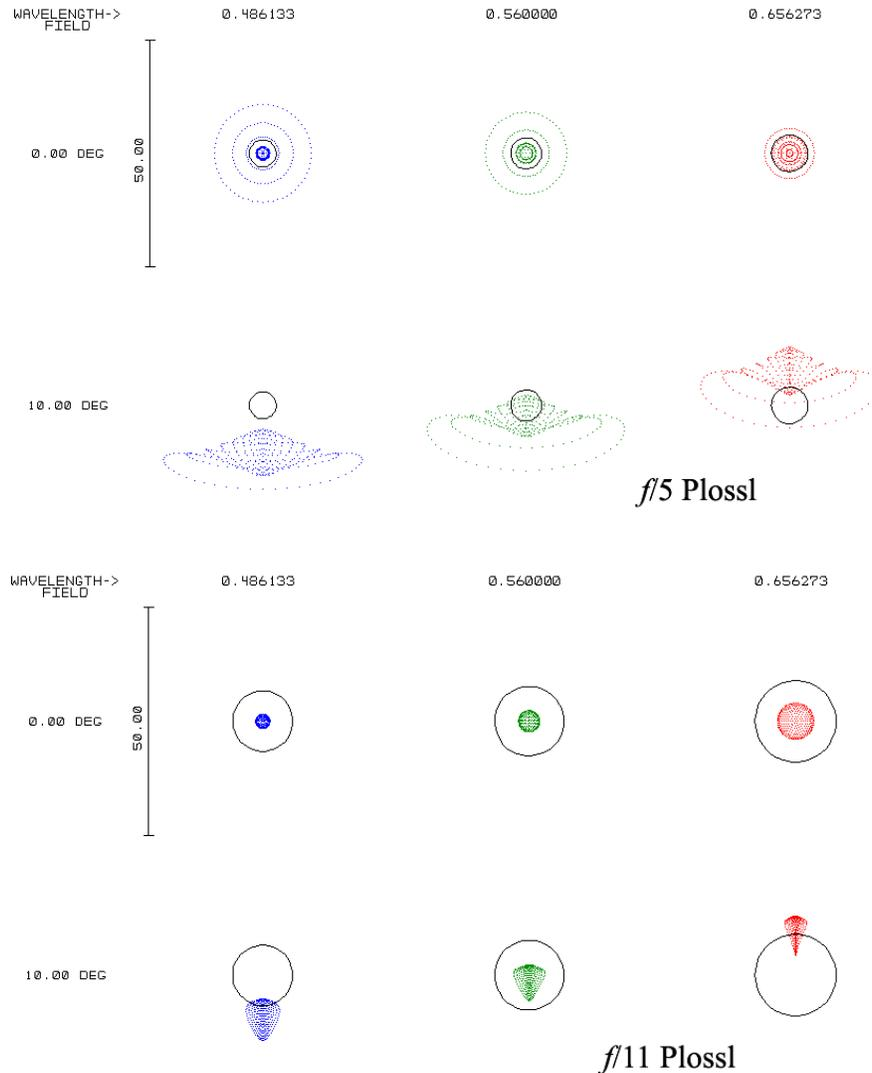

Figure 6. A picture showing the degradation at low f-number
The way this table was generated is depicted in Figure 6, which shows the performance of a Plössl at $f/11$ and $f/5$.
8) *Lateral color*. Note in Fig. 6 the 10-degree spots don't hit the center of the Airy disk in the red and blue. That is lateral color or the diversion of the image into a little spectrum streak. It is caused by the thick lenses acting as prisms to off-axis light. Some lenses let the lateral chromatic